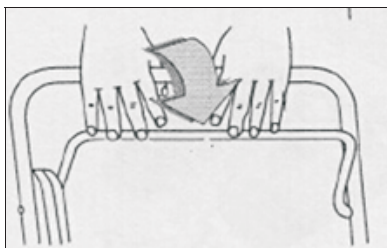

Fig. 4
1. Release the brake control handle (located on equipment) to stop the engine. (See Fig 4)